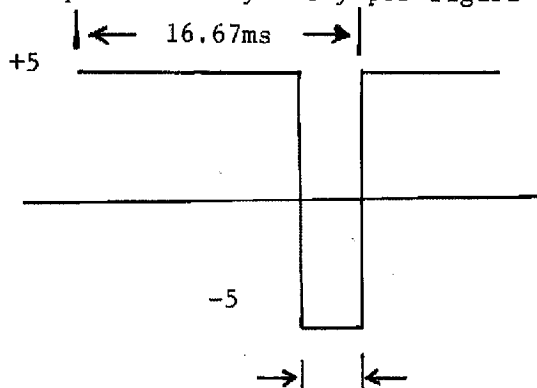

FIGURE 1
9. Set square wave symmetry per figure 1 by observation with oscilloscope.